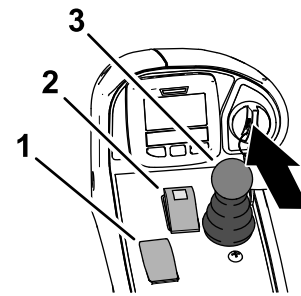

Figure 55
- Ensure that the PTO switch is set to the **DISENGAGE** position (Figure 55).